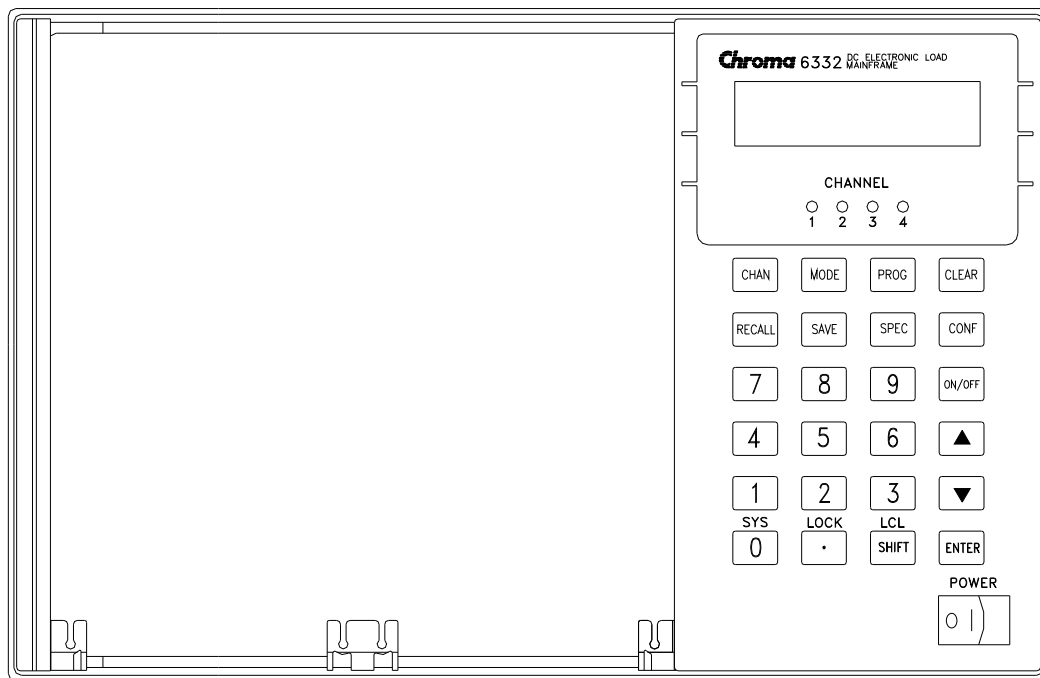

Figure 3-1 Front Panel of Mainframe 6332
The Mainframe front panel includes a 16 × 2 characters LCD display, 8 (4) channel indicators, and keypads. All parameters of Load are set through Mainframe. The LCD display also shows which function is being performed when you use the keypads. Three of the keys have two functions. The alternative function is labeled in blue above the key. It is selected by pressing the blue **SHIFT** key and the function key simultaneously. Figure 3-1 shows the front panel of Mainframe 6332.